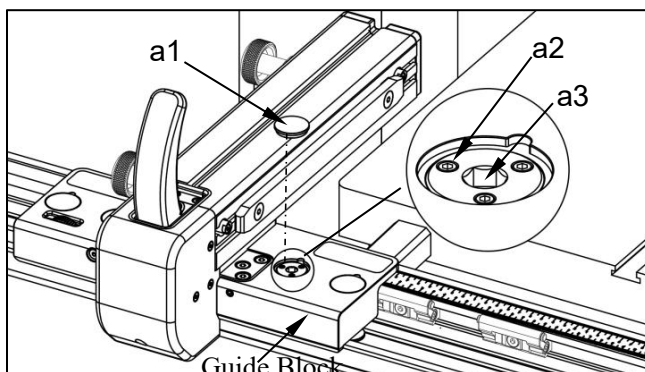

Fig. 18
- As shown in Fig. 18, remove the Dust Cover (a1).